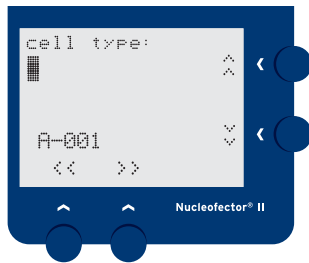
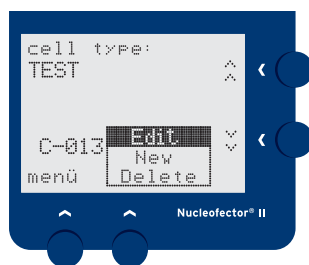

Fig. 5.
Fig. 6.
2. Press the functional button "options" (6). Select "new" from the popup menu by using the "Up" and "Down" buttons (3, 4) and confirm with "X" button (7). The menu jumps to a free custom program memory location (Fig. 5).
3. The cursor blinks at the starting position. Scroll through the character set by using the "Up" and "Down" button (3,4) to enter the desired text and move to the consecutive character positions with the functional button ">>" (6). By using the functional button "<<" (5) the cursor moves one step back and deletes the entered character.
4. After entering the desired name for the program, confirm the name by pressing the "X" button (7). The cursor automatically jumps to the program code position. Then choose the appropriate letter of the program code, e.g. A-023 by using the "Up" and "Down" buttons (3,4). Then move the cursor with the functional button ">>" (6) to the numerical three-digit code. Select the appropriate program number with "Up" and "Down" buttons (3,4). In order to save the custom program press the "X" button (7) and choose "yes" in the arising window by pressing the left functional button (5). Exit and save by pressing the "X" button (7).
6. In order to modify or delete a saved custom program, navigate to the corresponding program in the "Cell Type List" or "Custom Program" mode using the "Up" and "Down" buttons (3, 4) and subsequently press the functional button "options" (6). Move to "Edit" or "Delete" in the popup menu (Fig. 6) using the "Up" and "Down" buttons (3, 4) and select it with the "X" button (7). In case you want to edit your program, you may now modify any position of the custom program entry by the procedure described above for custom program entry. To leave the popup menu without any action press the functional button "options" (6) again.
7. Leave the edit or delete mode, save the changes, and return to the main menu by pressing the "X" button (7).